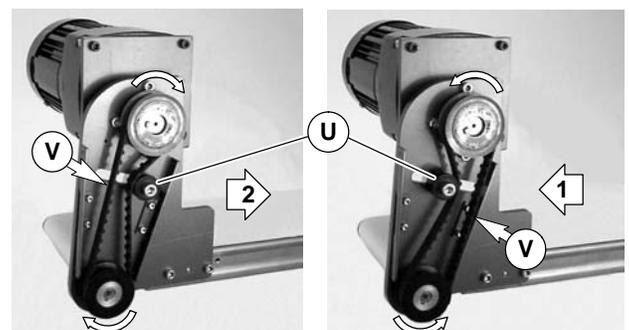

Figure 12
- Depending on direction of conveyor belt travel (1 or 2 of Figure 12), position belt tensioner (U) as shown. Tension belt to obtain 0.125" (3 mm) deflection for 1.0 lb (456 grams) of force at belt mid-point (V). Tighten tensioner screw to 103 in-lb (12 N-m).
3. Depending on direction of conveyor belt travel (1 or 2 of Figure 12), position belt tensioner (U) as shown. Tension belt to obtain 0.125" (3 mm) deflection for 1.0 lb (456 grams) of force at belt mid-point (V). Tighten tensioner screw to 103 in-lb (12 N-m).
5. Depending on conveyor belt travel (direction 1 or 2), locate timing belt tensioner (U of Figure 12) as shown. Tension timing belt to obtain 0.125" (3 mm) deflection for 1.0 lb (456 grams) of force at timing belt mid-point (V). Tighten tensioner screw to 103 in-lb (12 N-m).